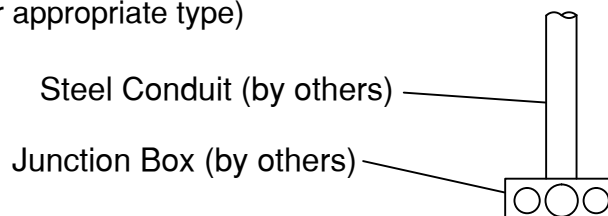

Fig. 5
1. Install junction box (see mounting plate installation for appropriate type) to steel conduit per Figure 5.